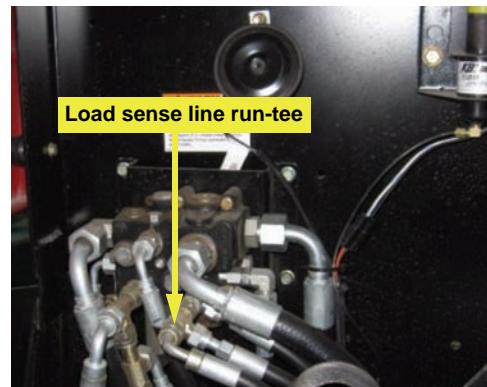

Figure 4c: Load sense line
- c. Trace the load sense line to the hydraulic divider mounted on the front side of the firewall. Disconnect the load sense line from its run-tee (Figure 4c).